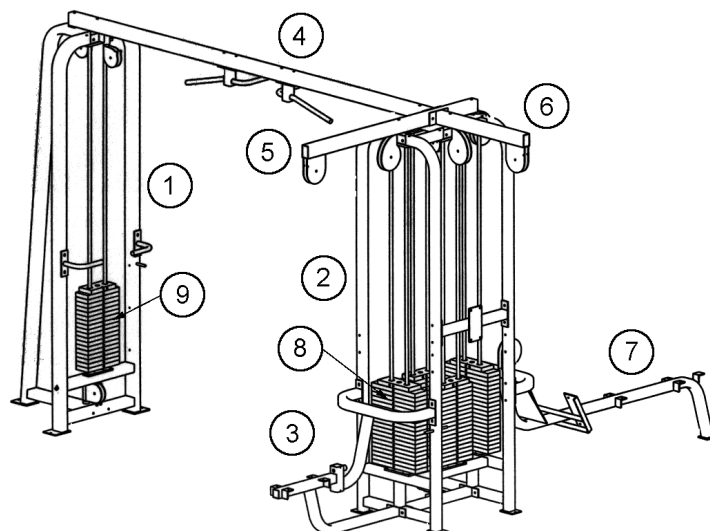
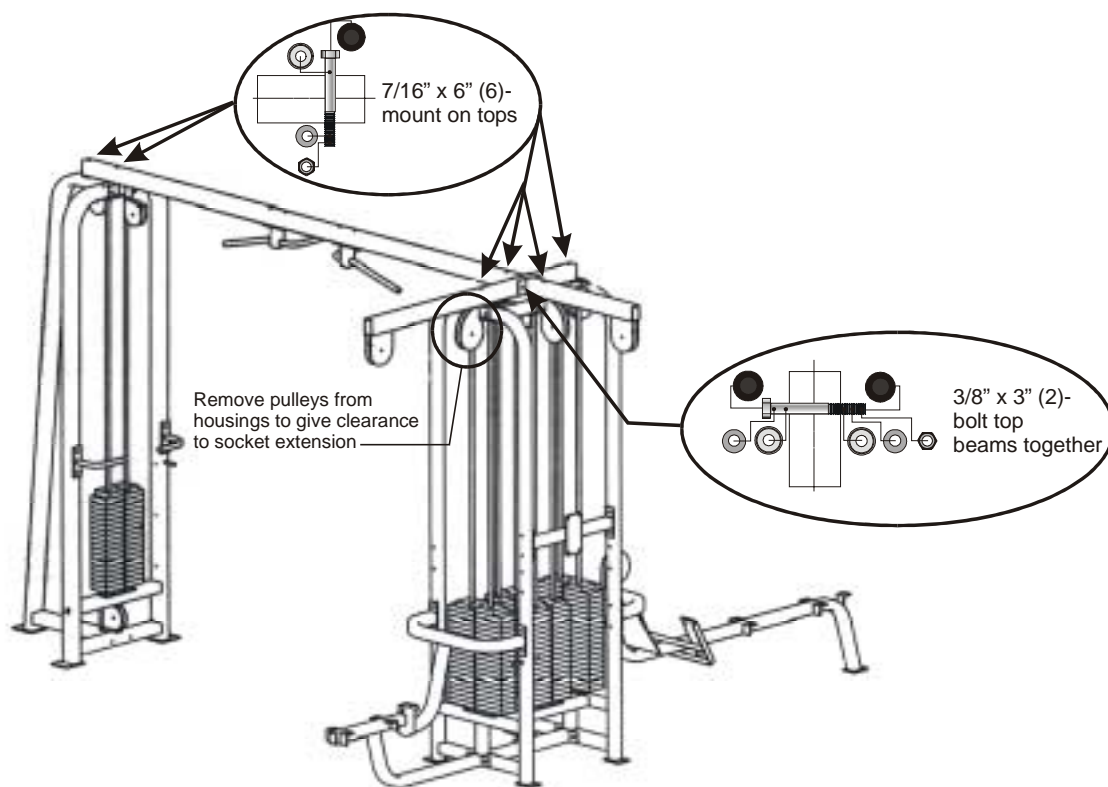

Figure 2. SM50 main components (seats and cables removed for clarity).
Figure 6. Bolt on the connecting beam, lat top, and tricep top.
Figure 2 shows an assembled SM50.
3. **Bolt on the connecting beam** (part 4 from Figure 2) using a 5/8" socket with extension and combination wrench, to the cells using two of the large 7/16" x 6" bolts, 7/16" washers, and 7/16" nuts, end cap washers and end caps. Figure 6 shows the connected cells.
The part shown in Hardware Figure 2 is the 9/16" cable jam nut that's used to secure the cables to the weight stacks.
Hardware Figure 2. Cable jam nut.
Hardware Figure 6. Weight stack rubber bumpers.